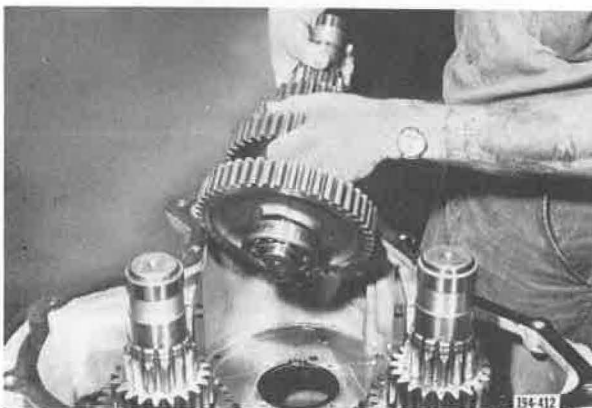

Figure 5-498. Installing Countershafts
1. Position transmission front case in a vertical position, and install three front countershafts. See Figure 5-498.